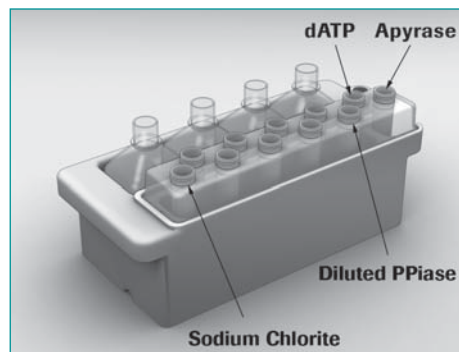

Figure 12: Loading the Reagents cassette, with the Sequencing Reagents tray in the proper orientation. The tubes that require a supplement are identified.
- Invert the tray 20 times to uniformly mix the contents of all tubes. Make sure that there are no undissolved particulates in any of the reagents (pay particular attention to the tube of Substrate reagent), and place the tray back in the Reagents cassette with the lone Apyrase tube at the far end, as shown in Figure 12, below.